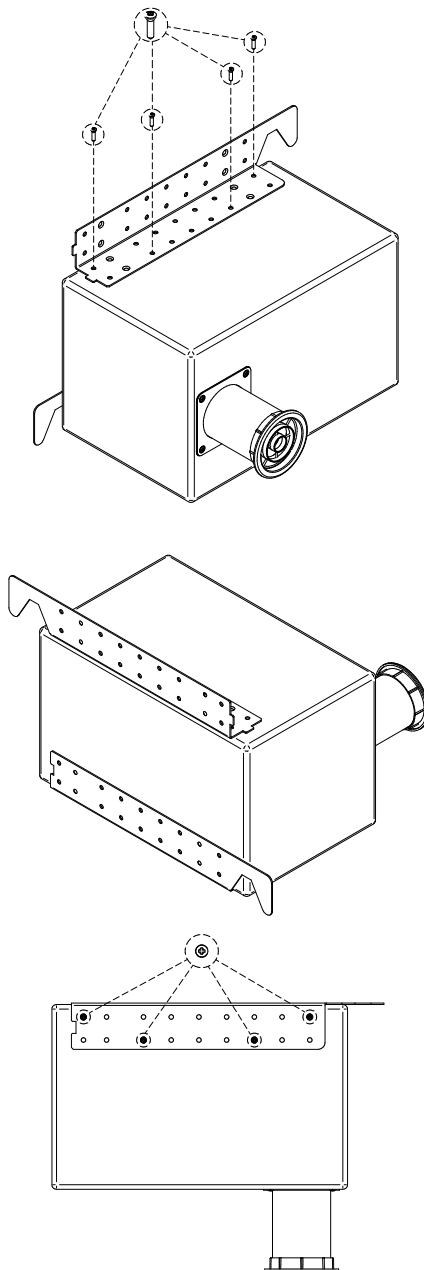

Figure 2: diagram of wall installation
1. Screw the lower metal fitting to the wall at the required height. Remember that the lower part of the TRAILS6T will rest on this angle. See figure 2.
3. Screw the upper support to the TRAILS6T with the supplied screws (Figure 2) and then screw it to the wall, leaving the loudspeaker resting on the lower support.